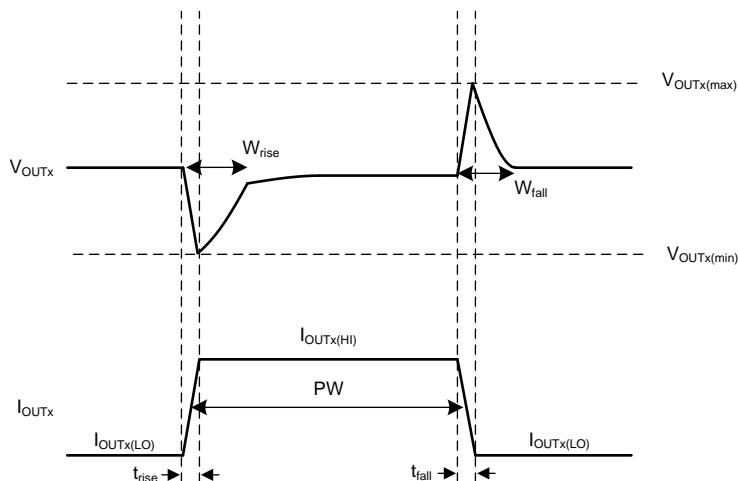

Figure 51. Simplified Load Transient Waveform
The transient response peaks ($V_{OUTx(max)}$ and $V_{OUTx(min)}$) are improved by using more output capacitance; however, doing so slows down the recovery time (W_{rise} and W_{fall}). Figure 51 shows these parameters during a load transient, with a given pulse duration (PW) and current levels ($I_{OUTx(LO)}$ and $I_{OUTx(HI)}$).